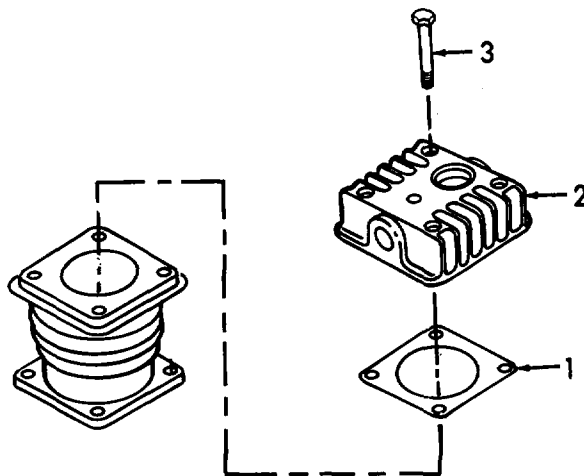

Figure 3-30. Head and Valve Assemblies, Installation.
(1) Install valve plate (1), spring (2), valve receiver (3), and snap ring (4) to head (5).
(2) Install valve plate (6), spring (7), new packing (8), and push cover (9).
g. *Installation.* (Refer to Figure 3-30).